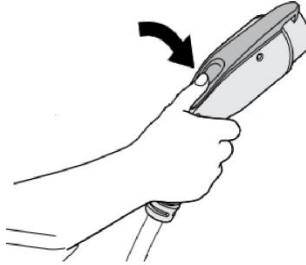

Fig. 6-13 Plug into EV socket
- As shown in Fig.6-13, plug the charging connector into the AC charging socket of the EV.